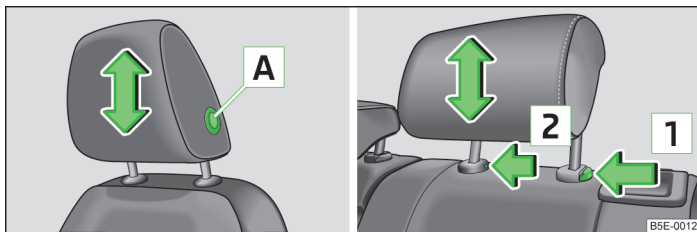

Fig. 49 Head restraint: front/rear
- Hold the **front head restraints** on the sides with both hands, press and hold the safety button **A** » Fig. 49 and move the head restraints into position.
- Hold the **rear head restraints** on the sides with both hands and move them upwards » Fig. 49.
- Press the locking button in the direction of arrow **1** » Fig. 49, simultaneously press the locking button into the opening **2** using a flat screwdriver with a width of maximum 5 mm and pull out the head restraint.